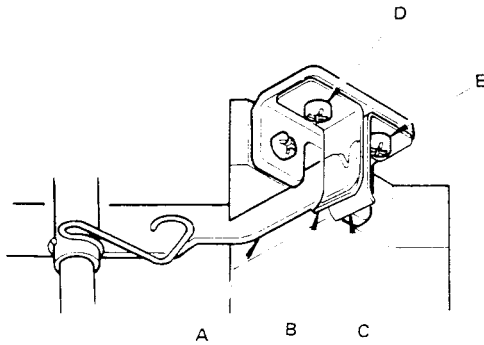

Fig. 55
- To adjust the pressure of needle thread holder puller springs **B, C** on puller **A**, loosen screws **D, E** and move springs **B, C** to the left or right as required. Firmly tighten screws **D, E**. (Fig. 55)